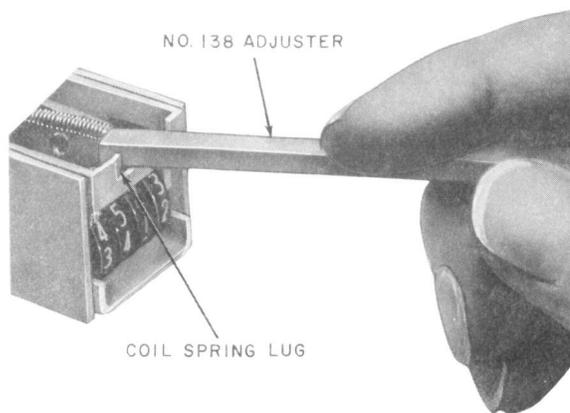

Fig. 16—Method of Adjusting Coil Spring Tension
(1) If the register fails to meet the electrical requirements, this may be due to the tension of the coil spring and in the case of registers equipped with contact springs, excessive contact separation may also be a factor. If the register fails to meet the operate or hold requirement, decrease the tension of the coil spring by adjusting
the coil spring lug toward the armature with the 138 adjuster. Apply the adjuster to the middle of the lug, as shown in Fig. 16. If the register is equipped with contact springs, it may be necessary to also decrease the contact separation. In this case reduce the contact separation following procedures similar to those covered in 3.12(1) or (2). If the register fails to meet the release or nonoperate requirement, increase the tension of the coil spring by adjusting the lug toward the rear surface of the cyclometer frame crosspiece. If the electrical requirements still are not met, adjust the operated armature gap as described in (2).